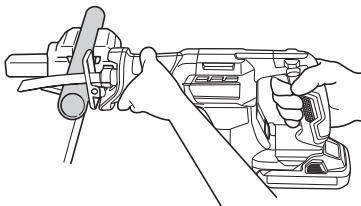

Fig. 23
(1) Fasten a workpiece firmly before operation. (Fig. 23)